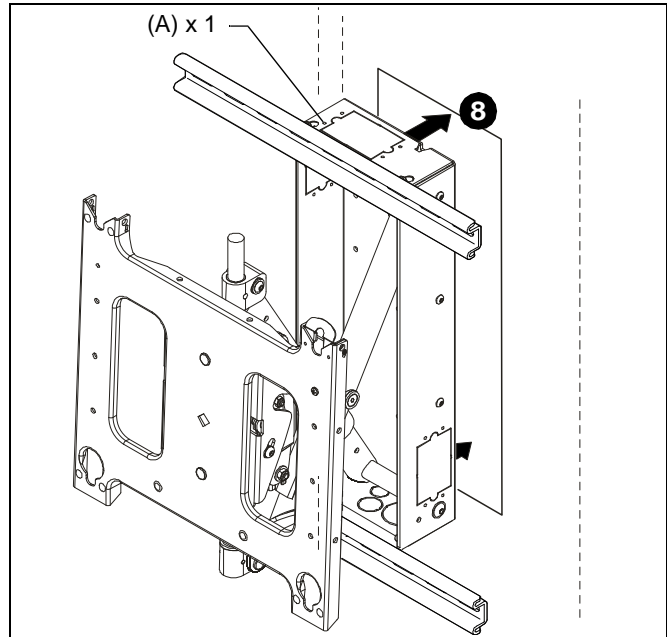

Figure 5
8. Slide mount (A) enclosure into opening in wall. (See Figure 5)